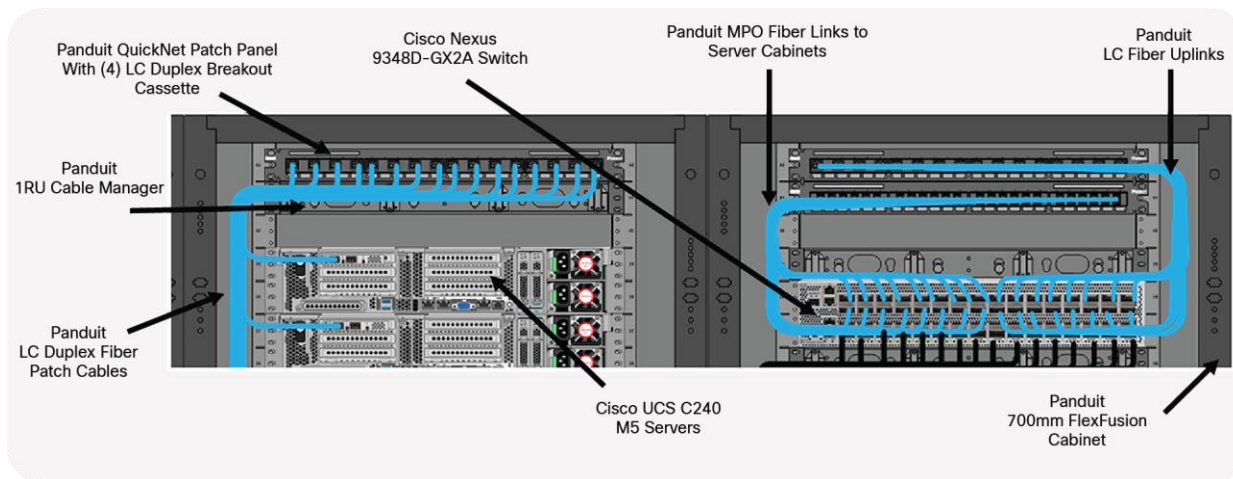

Figure 4. Closeup of breakout cassette in the server cabinet and the cabling in the switch cabinet.
The scenario in Figure 4 is offering another alternative to the traditional data center switch-server connectivity setup. In this scenario, a two-cabinet POD deployment is utilized with (16) 2RU servers in each cabinet using a single 48-port 400G switch. It's a split model of (16) 100G servers in the switch cabinet and (16) 100G servers in the remote cabinet. This switch is providing (16) ports of 100G achieved by using (16) ports of 100G utilizing Panduit or Cisco 100G DACs, (16) ports of 100G achieved by using (16) ports of 100G utilizing Panduit 100G AOCs, and (16) ports of 100G fiber uplinks delivering a 2:1 oversubscription. The copper DACs are used in the cabinet where the switch resides, and the AOCs are utilized in the remote cabinet due to length restrictions.